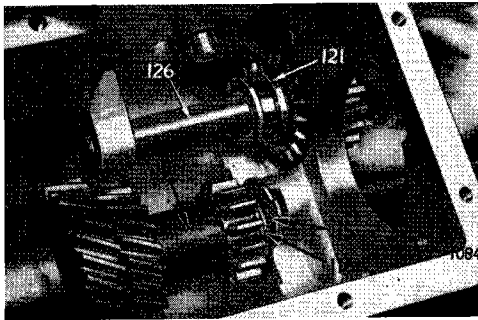

Fig. 31.
Slide the reverse idler gear (121) over the shaft and engage its annular groove with the pin attached to the lower end of the operating lever (122) as shown on Fig. 31.